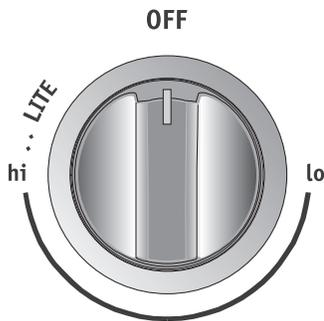

Figure 2: Gas knob LITE position
3. Release the knob and rotate to the LITE position (see figure 2). Note: All four electronic surface ignitors will spark at the same time. However, only the burner you are turning on will ignite.